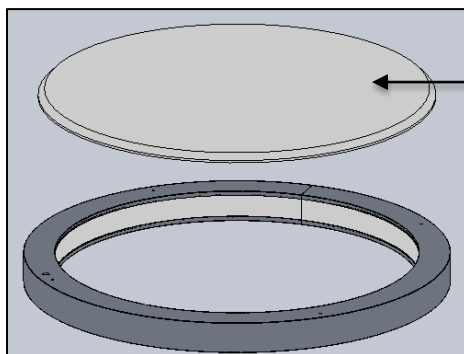

FIG. 22 - RV1 (INNER ILLUMINATION) (WITH ACOUSTIC PANEL SHOWN)
13. If there is option for Acoustic Panel, place the Acoustic part above the fixture body such that it is eventually balanced and assembly concentrically to the axis of fixture body as shown in FIG. 22 and 23 below for both RV1 and RV2 Series.